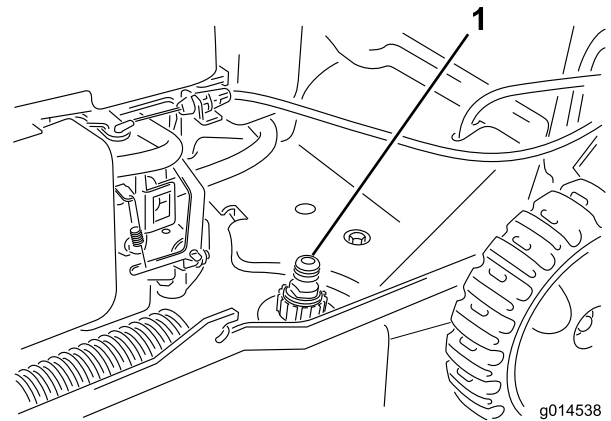

Figure 25
- Attach a garden hose that is connected to a water supply to the washout port on the machine housing (Figure 25).